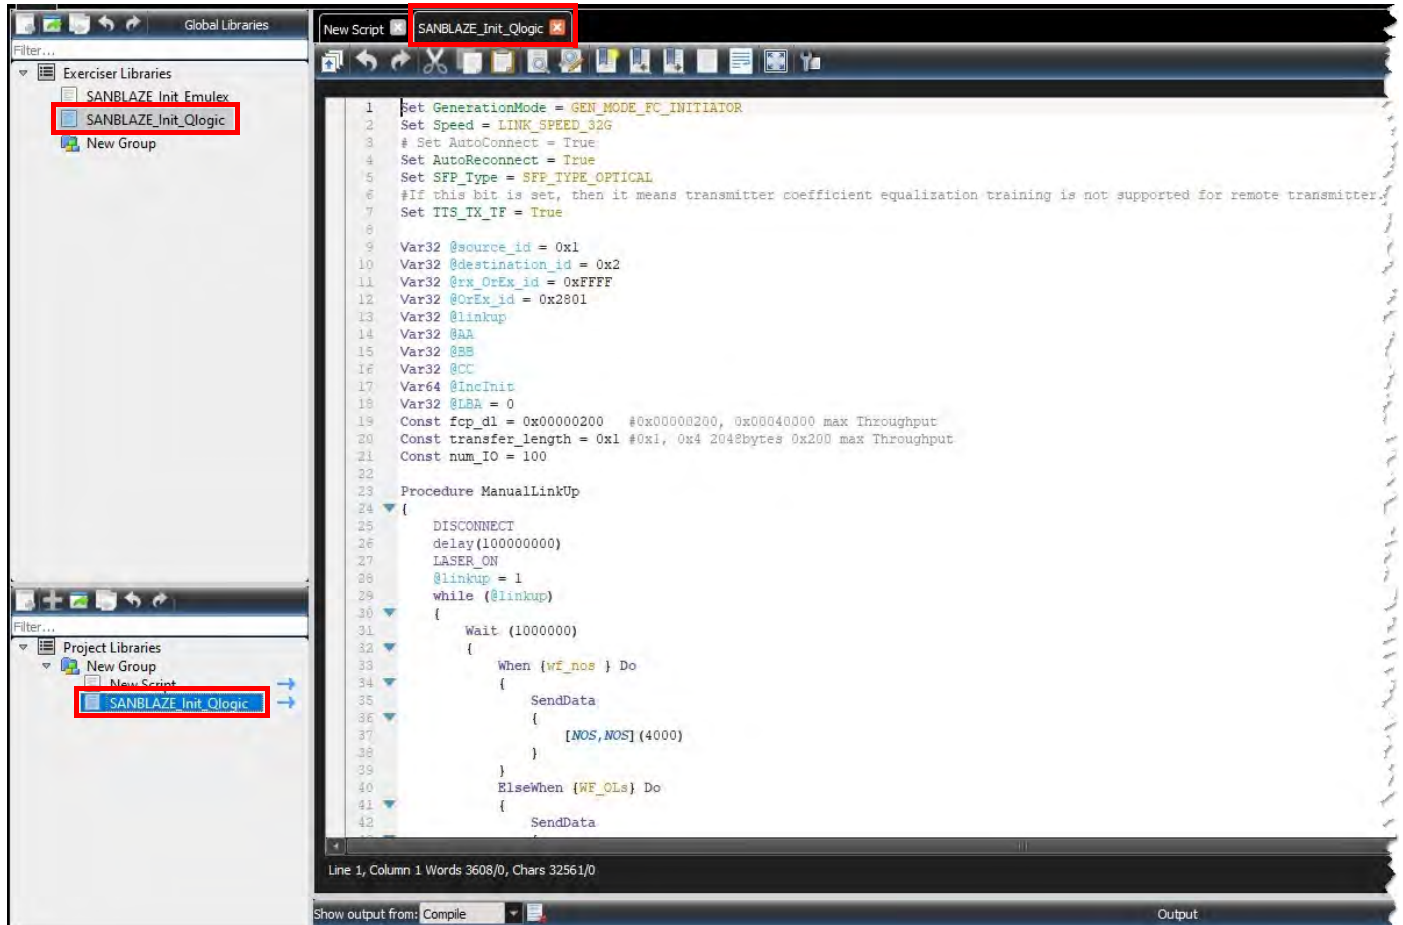
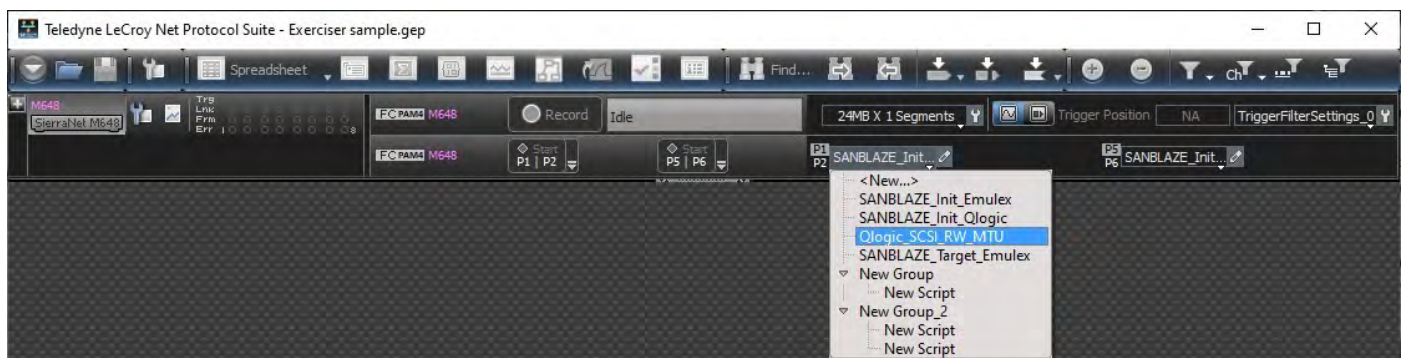

Figure 8.30: Scripts Added to Your Project
Figure 8.31: NET Protocol Suite: Main Menu – Available Scripts in Project
- From this menu, you can change the options to any Frame or any Command. Examples are shown in Figure 8.30 and Figure 8.31.
1. From the Exerciser Script Editor, add some Sample scripts to your Project. See Figure 8.30.
2. Close the editor and return to the NET Protocol Suite Main Menu, Figure 8.31.